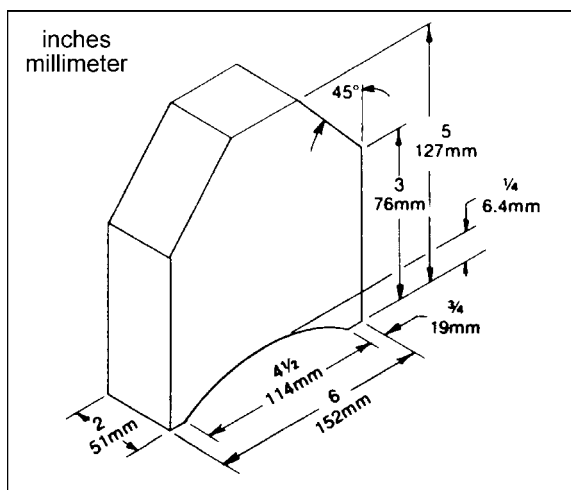

Figure 10
2. Place a dial gauge (not provided) under a knife insert in the cutterhead. If a dial gauge is not available, use a finished block of wood with notches cut out for the table rollers, in conjunction with a feeler gauge. See Figure 10 for an example of a wood block you can make and use as a gauge. Zero the gauge at that position.